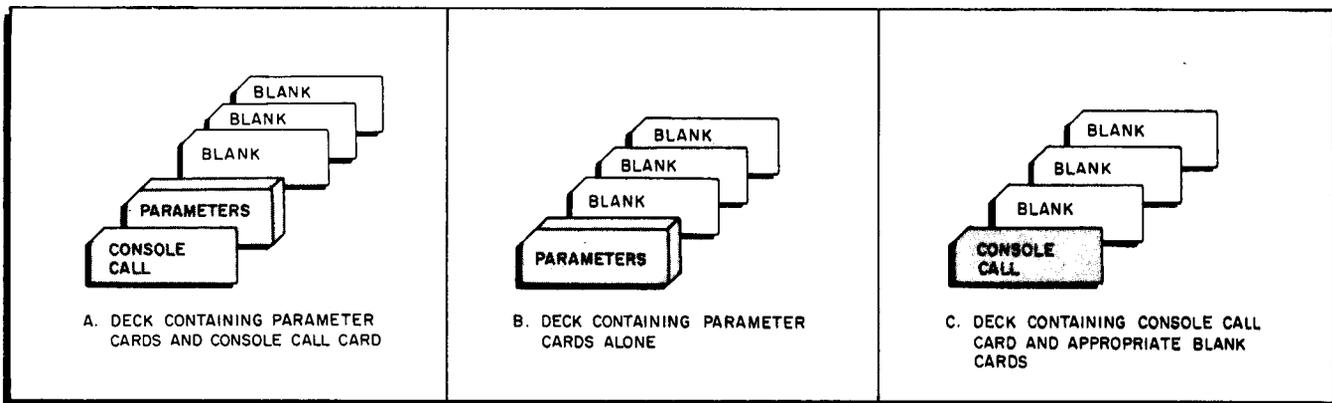

Figure 2. Organization of the Various AAF TOR (THOREX) Decks
3. If parameters are on cards, place them in the card reader input hopper following the Console Call card (if used) and cycle-up the card reader (see Figure 2 on page 5). If parameters are on paper tape, mount the paper tape reel or strip and cycle-up the reader; note that the console call information is entered from the control panel (see note below).